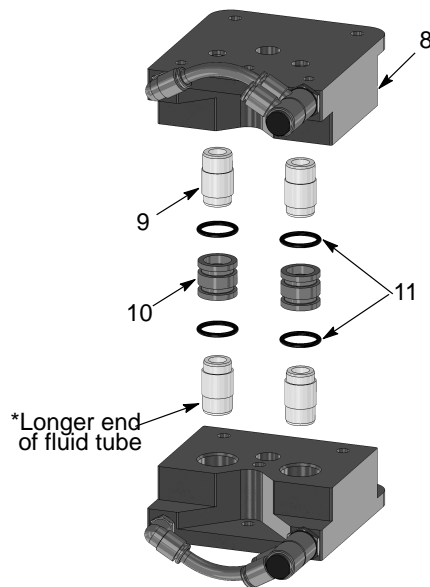
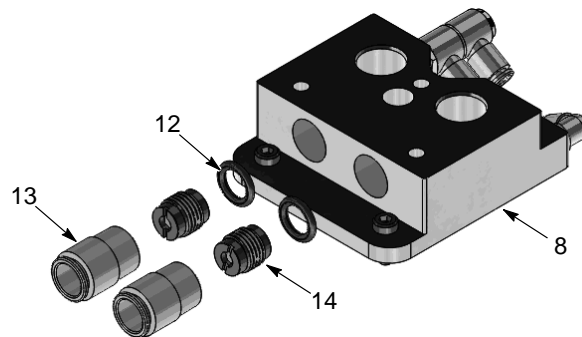

Figure 7-8 Middle Siphon Block Components
Figure 7-9 Middle Block Disassembly
5. See Figure 7-8. Wiggle the screw driver back and forth to remove the fluid tubes (9).
6. See Figure 7-9. Remove two fittings (14) from each middle block (8).
7. Remove two check valves (14) from each middle block (8). Use a finger to remove the two O-rings (12) from each middle block.
NOTE: Figure 7-9 only shows two of the four fittings and check valves to be removed.
1. See Figure 7-9. Using a finger, securely seat two O-rings (12) in each middle block (8).
2. Using a large flat head screwdriver, insert two check valves (14) into each middle block (8).
3. Using a 10-mm Allen wrench, insert two fittings (13) into each middle block (8).
4. See Figure 7-8. To connect the two middle blocks (8), insert two fluid tubes (9) into each middle block. Secure two O-rings (11) on each bushing (10). Apply light pressure to secure the two middle blocks together.